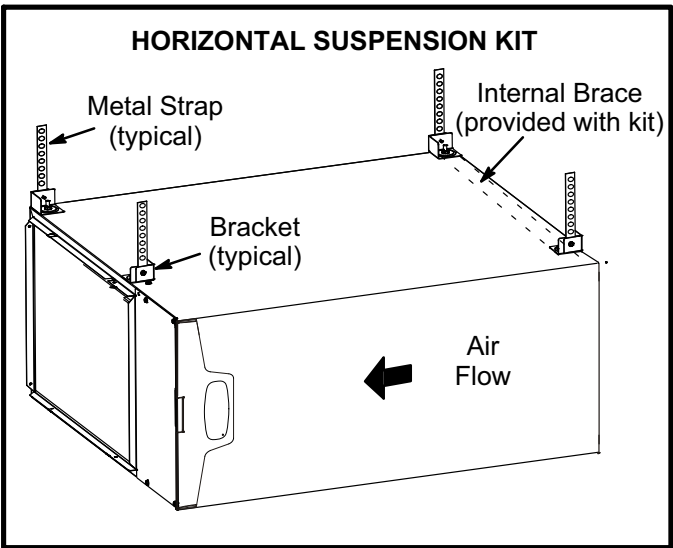
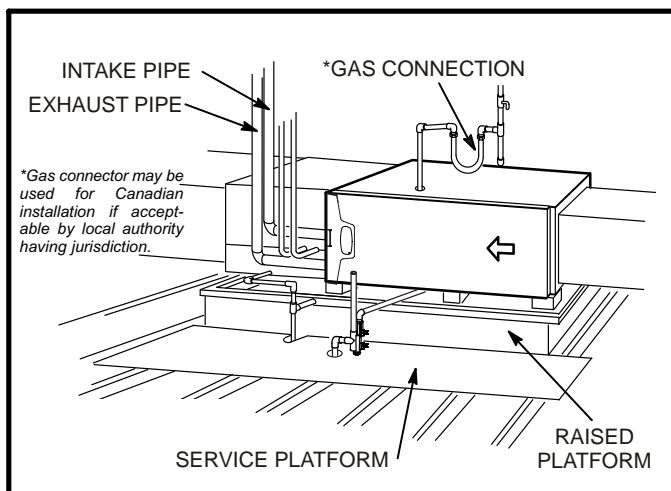

FIGURE 18
FIGURE 19
This furnace may be installed in either an attic or a crawlspace. Either suspend the furnace from roof rafters or floor joists, as shown in figure 18, or install the furnace on a platform, as shown in figure 19. A horizontal suspension kit (51W10) may be ordered from Lennox or use equivalent. *NOTE - Heavy-gauge sheet metal straps may be used to suspend the unit from roof rafters or ceiling joists. When straps are used to suspend the unit in this way, support must be provided for both the ends. The straps must not interfere with the plenum or exhaust piping installation. **Cooling coils and supply and return air plenums must be supported separately.***
- 2 - Construct a raised wooden frame and cover frame with a plywood sheet. If unit is installed above finished space, install an auxiliary drain pan under unit. Set unit in drain pan as shown in figure 19. Leave 8 inches for service clearance below unit for condensate trap.